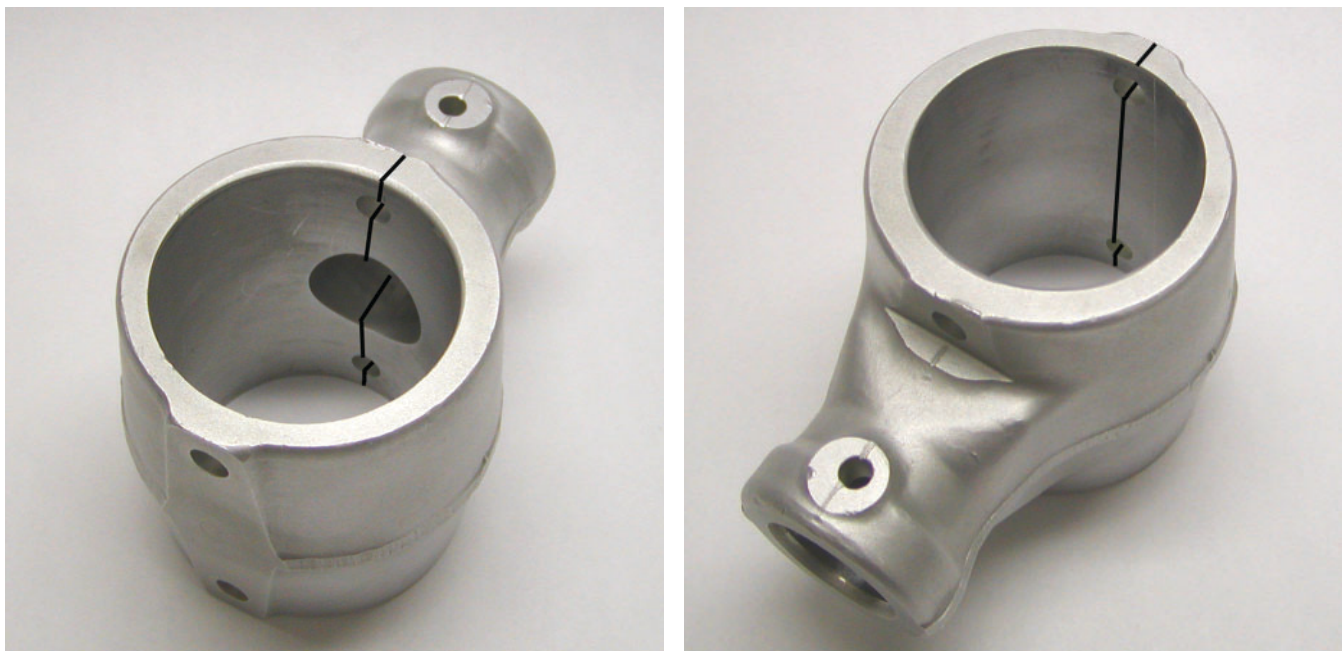

Figure 1
3. Clean the inner surface of the Stabilator Horn with isopropyl alcohol, and perform dye penetrant inspection per AC 43.13-1B (Aircraft Inspection and Repair Manual), with specific emphasis on the areas denoted by heavy lines in Figure 1.
NOTE: When cracks occur, they have been found to originate at an inner surface of the Stabilator Horn, as shown in Figure 1. Therefore, removal of exterior paint is not required for inspection. However, the Stabilator Horn **MUST** be removed from the Stabilator Torque Tube, in order to gain visual access to these areas.